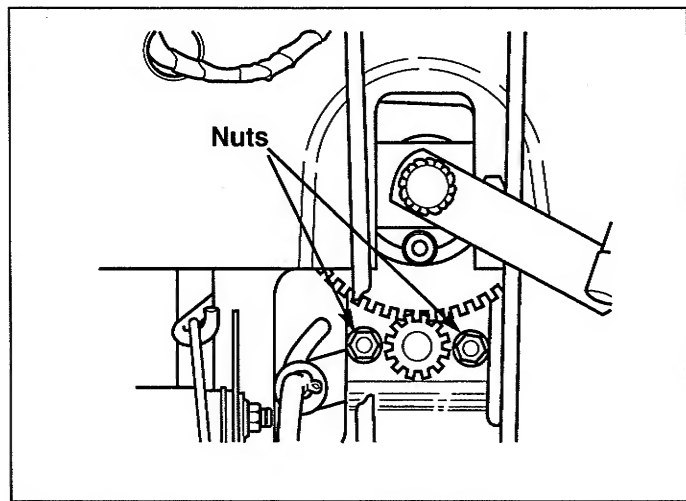

Figure 45. Steering Gear Adjustment
1. See Figure 45. Loosen the two nuts and adjust the bracket so the gear teeth are closely meshed.